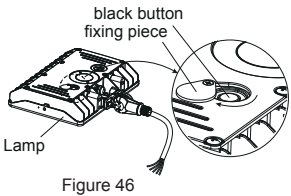

Figure 46
Step 2: Light up the lamp, push aside the fixing piece to show the black button, and adjust the color temperature by pressing the black button(Figure 46);